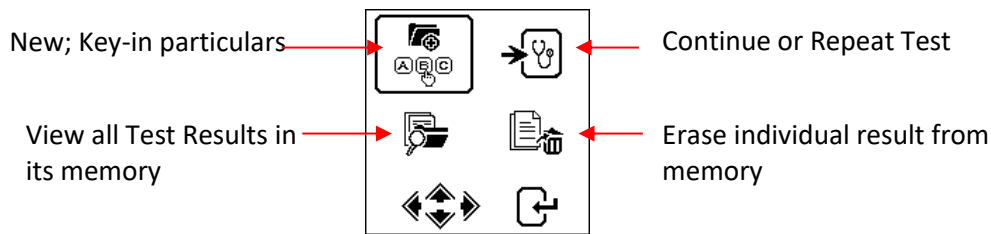

Fig.13
- If the contacts between the battery and the Analyser have no problem, then the Menu screen will display as shown below (Fig.13):